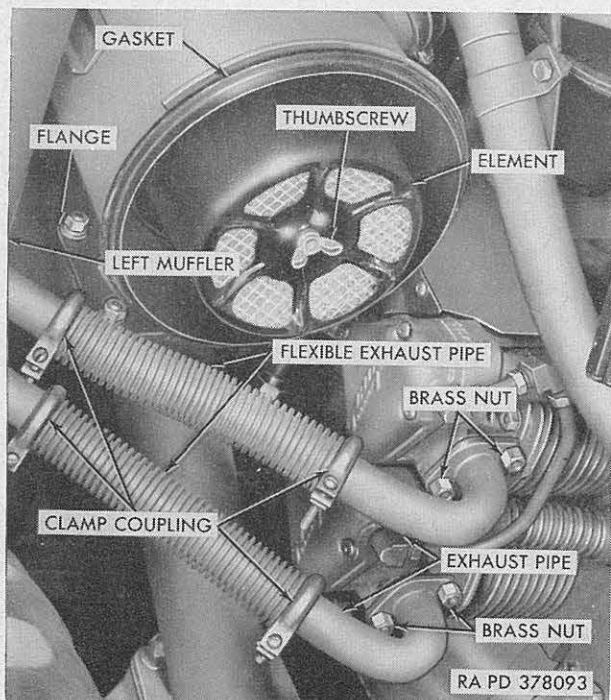

Figure 22. Right exhaust manifold—air cleaner oil reservoir removed.
## 51. Exhaust Manifold (fig. 22)
*f.* Loosen screws in eight grooved couplings (fig. 22), slide couplings onto flexible exhaust pipes and remove the four flexible exhaust pipes.